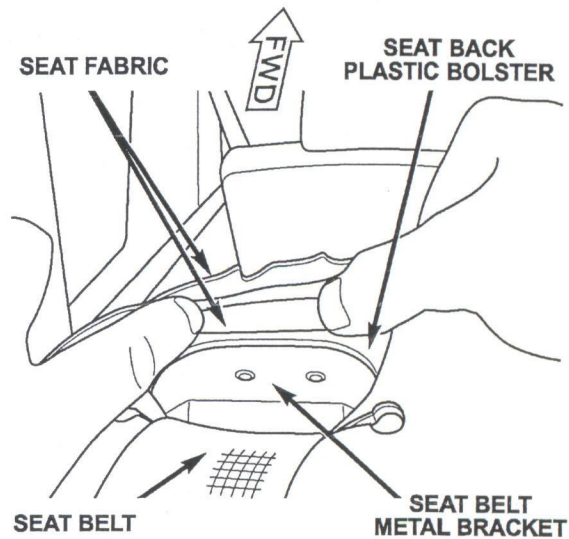

Figure 2
5. Gently pull back on the seat back cover fabric to expose the seat belt metal bracket (Figure 2).
6. Insert the plastic bracket cover between the seat back fabric and the seat back plastic bolster (Figure 2).